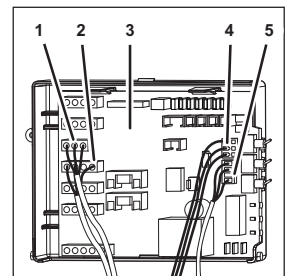

Fig. 65
2. Disconnect the plug (Fig. 65/1) of the compressor from the control system (Fig. 65/3).
3. Disconnect the plug (Fig. 65/2) of the solenoid valve from the control system (Fig. 65/3).
4. Disconnect the plug (Fig. 65/4) of the ice build-up probe from the control system (Fig. 65/3).
5. Disconnect the plug (Fig. 65/5) of the level electrode from the control system (Fig. 65/3).
10. Connect the plug (Fig. 65/4) of the level electrode to the control system (Fig. 65/2).
11. Connect the plug (Fig. 65/3) of the ice build-up probe to the control system (Fig. 65/2).
12. Connect the plug (Fig. 65/1) of the compressor to the control system (Fig. 65/2).